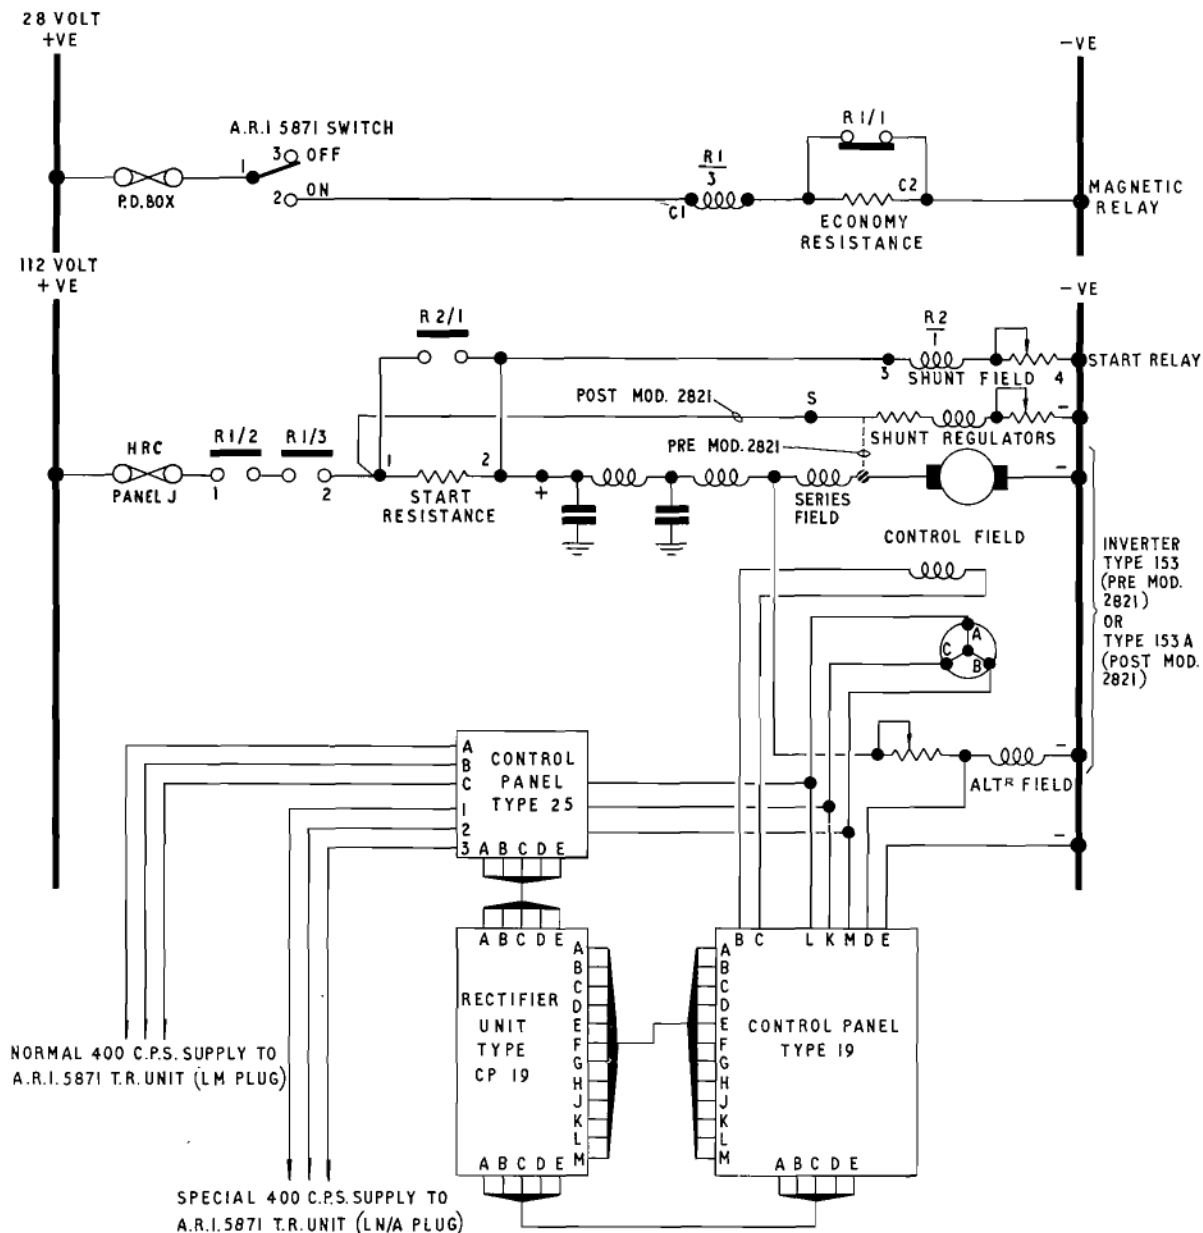

Fig. 8. A.R.I.5851 inverter Type 153 (pre-Mod. 2399)
A.R.I.5851 supply (pre-Mod. 2399) (fig. 8)